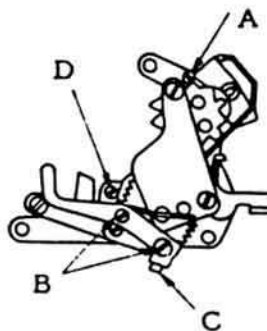

Fig. 16
- ii) Adjust the slow governor speeds with Eccentric Screw A (fig. 16).
- 2) 1/1 sec is to be aligned by eccentric screw A (Fig. 16).
(Note 2) Sector position is set by the eccentric screw D (Fig. 16). If it is changed, the entire alignment is effected.